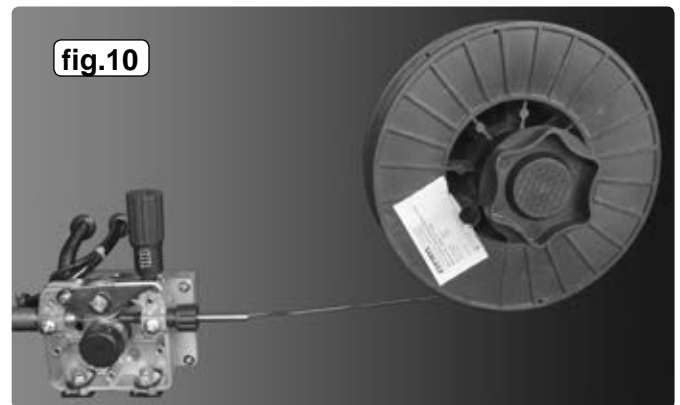

fig.10
4.8.1. Unscrew the locking knob from the end of the spool holder (see fig.7C) and remove the spacer. Slide the reel of wire onto the spool holder and ensure that the clutch pin at the back of the spool holder (E) engages into the guide hole in the wire reel moulding. This will prevent the wire reel from freewheeling on the spool holder. Slide the spacer onto the spool holder and retain it by screwing the knob into place as shown above in fig.9. Ensure that the wire is coming off the bottom of the reel in the direction of the wire drive unit as shown in fig.10.